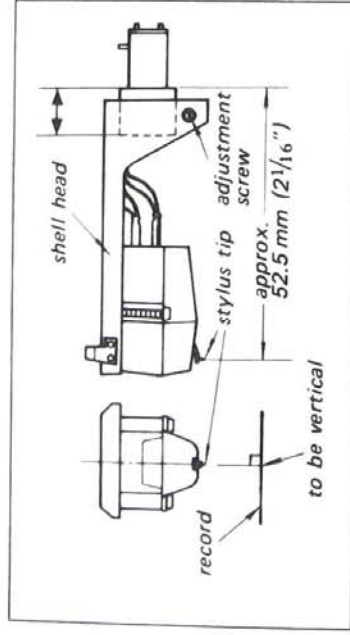

Fig. 2-11. Shell head position adjustment
- a) Loosen the adjustment screw with a screwdriver as shown in Fig. 2-11.
- b) Slide the shell head to a position which is 52.5 mm ($2\frac{1}{16}$ ") away from the stylus tip to the end of the shell head as shown in Fig. 2-11.